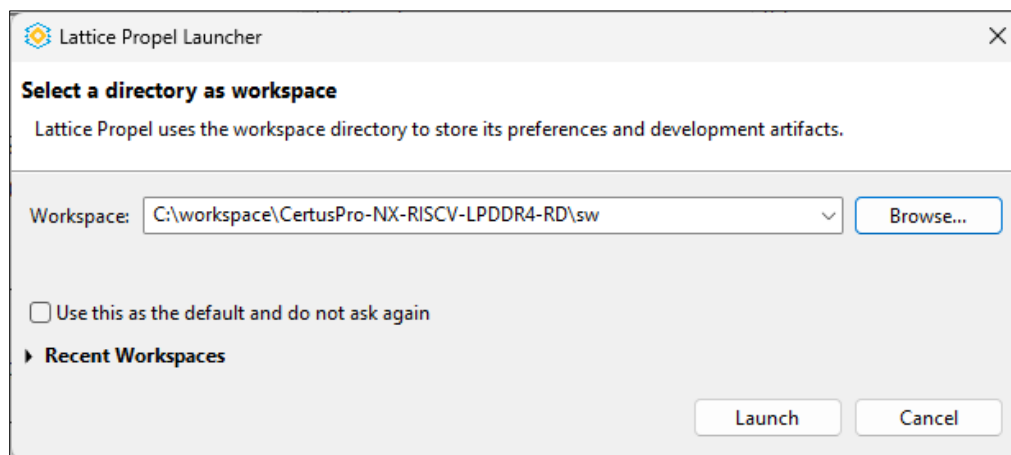

Figure 8.8. Propel SDK Workspace Setup
4. When the workspace path is set, click **Launch** to open the SDK. Figure 8.8 illustrates the reference design workspace setup.